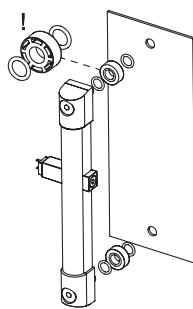

Fig.6.1
- If the walls of the tank are thin and therefore it is not possible to have threaded holes, use the nuts supplied (max door thickness = 2 mm) (Fig.6.1).